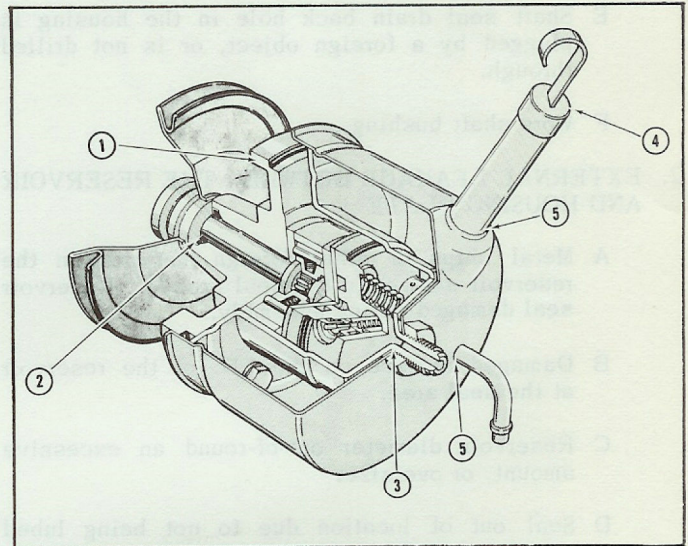

Fig. 2 – Leakage Points 9018A
There are five (5) points of possible external leakage on the Ford design power steering pump assembly (See Fig. 2).